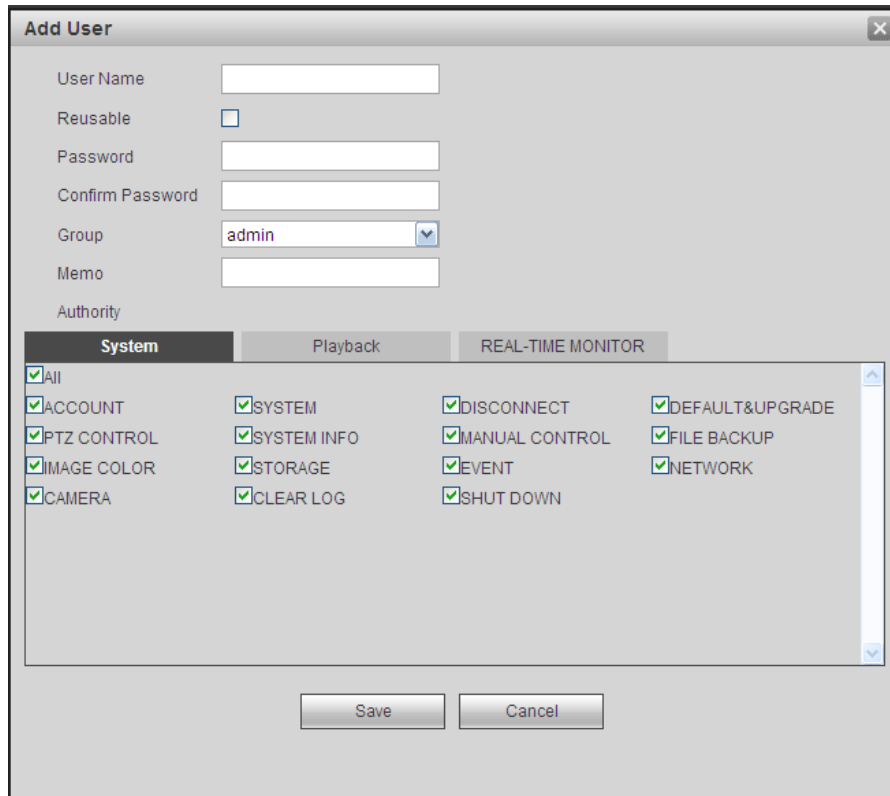

Figure 5-101
**Add user:** It is to add a name to group and set the user rights. See Figure 5-101.